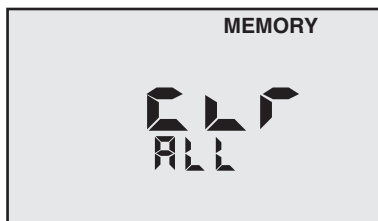

Figure 7
**"CLF ALL"** will be displayed (see Figure 7).